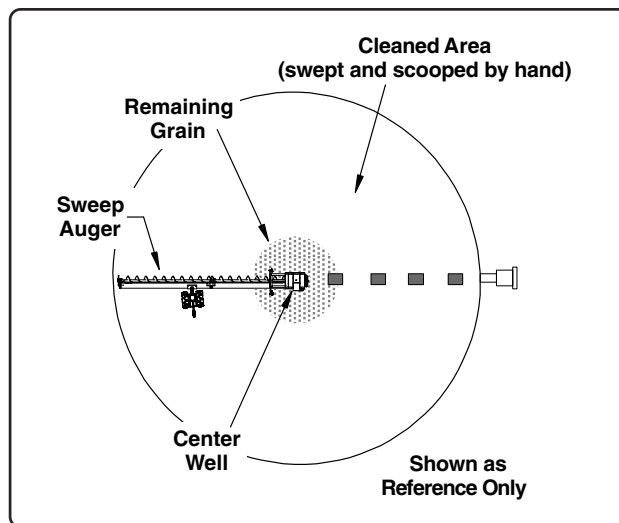

Fig. 2
3. Shut down and lockout the power source to the unload auger and sweep auger. Clean (scoop and sweep by hand) the remaining floor area into a circular pile towards the center of the bin (See Fig. 2).